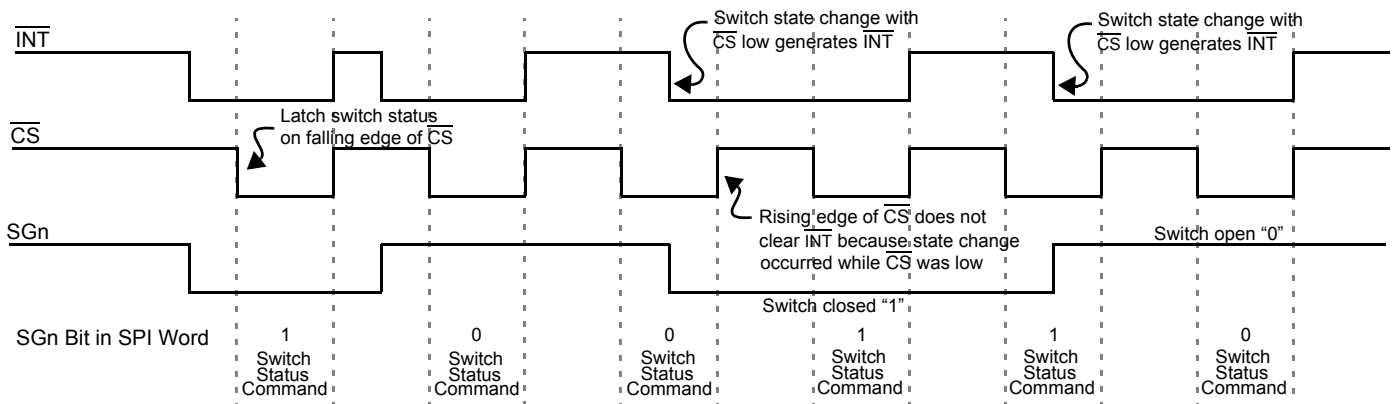

Figure 4. Normal Mode Interrupt Operation
2. \overline{INT} pin is reset to logic [1], except when additional switch changes occur during CS low. (See Figure 4 on page 8.)
Figure 4, page 8, is a graphical description of the device operation in Normal mode. Switch states are latched into the input register on the falling edge of \overline{CS} . The \overline{INT} to the MCU is cleared on the rising edge of \overline{CS} . However, \overline{INT} will not clear on rising edge of \overline{CS} if a switch has closed during SPI communication (\overline{CS} low). This prevents switch states from being missed by the MCU.